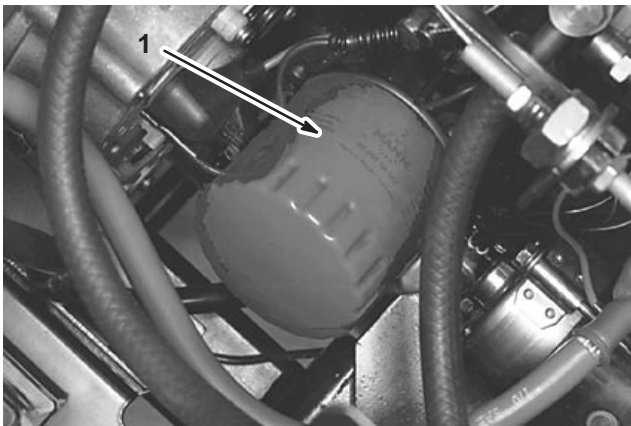

Figure 41
2. Remove oil filter (Fig. 41). Apply a light coat of clean oil to the new filter seal before screwing it on. **Do not over-tighten.**